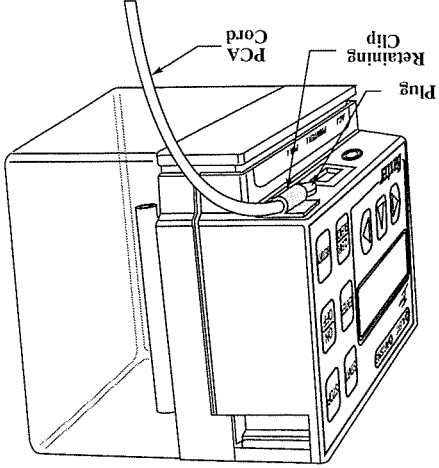

Figure 3-4 Connected PCA Cord and Plug
3. Make sure the PCA cord and plug are installed as shown in Figure 3-4